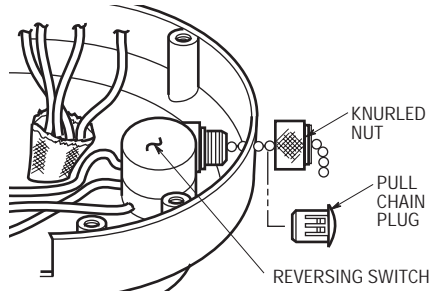

Figure 4
**5. For Ceiling Fan Models F2100, F2200 and CF2300 Only.** Remove the knurled nut securing the reversing switch to the switch housing (Figure 4).